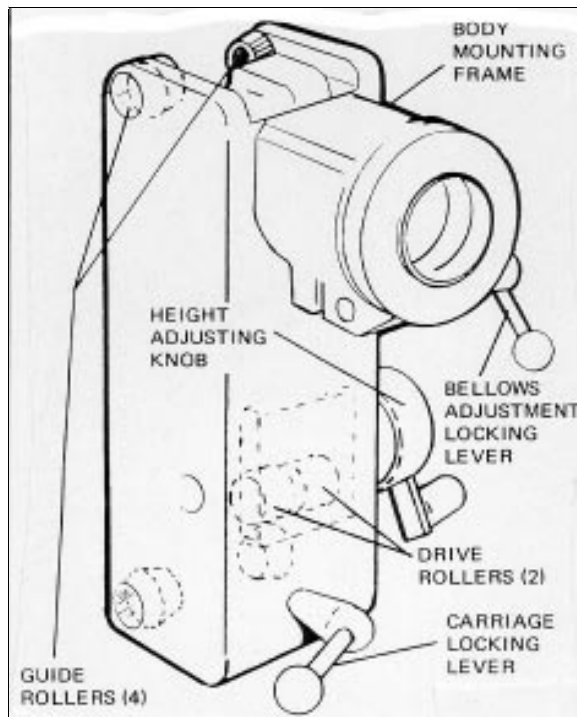

Figure 5-2. Carriage Assembly
Figure 5-2 shows the carriage assembly removed from the column. Refer to paragraph C1 for instructions on carriage removal from the column.
There are four nylon support guides in the carriage (item 32, figure 5-2, section 5). These are used to prevent side-to-side movement of the assembly as it travels up and down the column. The supports are secured by set-screws and must NOT be touched except in the unusual case of undesired lateral motion.